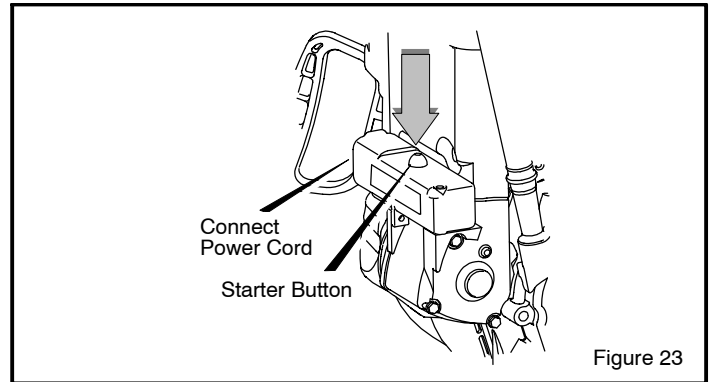

Figure 23
7. **(ELECTRIC START)** Connect the power cord to the engine and depress the starter button (Figure 23). To prolong the life of the starter, do not crank for more than 5 seconds at a time. Wait one minute between starts to allow the starter motor to cool.